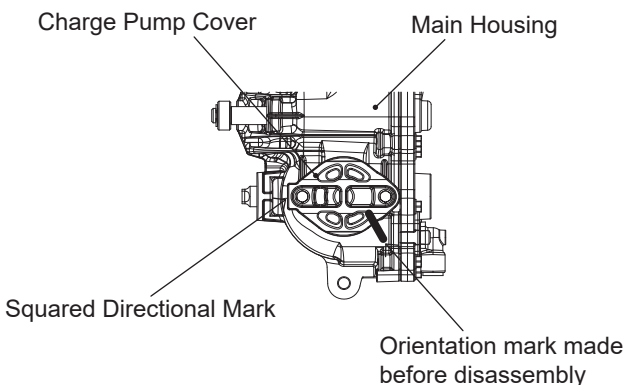

Figure 22a, Charge Pump Cover Orientation
Refer to Figures 22a-22b
1. **Mark the orientation of the charge pump cover relative to the main housing, prior to removal. Refer to figure 22a.**